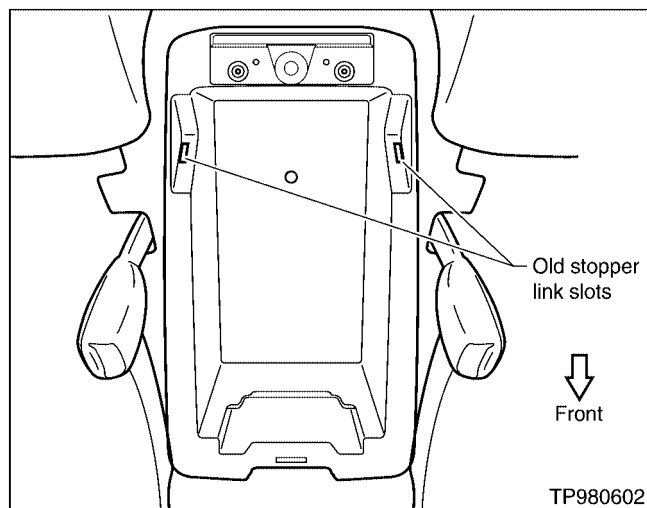

Figure 1
2. Unscrew the console lid hinge from the console box. Slide any remaining lid stopper links out of their slots and remove the console lid (see Figure 1).